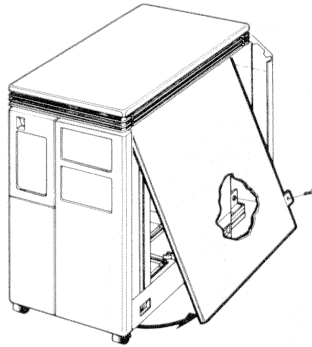

Figure 6-3 Right Side Panel Removal
5. Lift the panel slightly to release it from the lip at the top of the frame and remove the panel. (Figure 6-3)